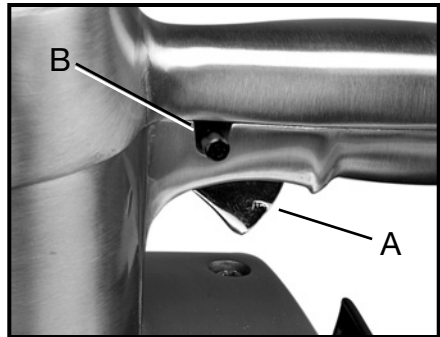

Fig. 5
This tool is equipped with a trigger switch (A) Fig. 5. A switch locking button (B) Fig. 5 is located on the left side of the handle. Start the motor by depressing the trigger. Stop the motor by releasing the trigger. To keep the motor running without holding your finger on the trigger, depress the trigger, push in on the locking button and release the trigger. To release the locking button, depress the trigger and release.